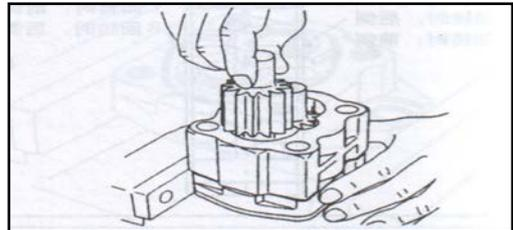

Figure 5-26
g) The driven gear is loaded into the pump body in the direction shown in Figure 5-26.